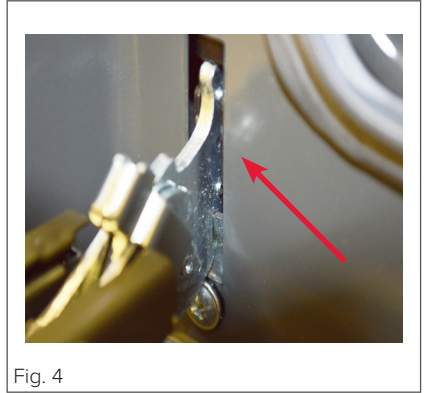

Fig. 4
- Hold the door to the appliance in the closed position and manoeuvre the hinges so that the part of the hinge, highlighted by the star in fig. 4, inserts into the hinge slot in the cavity frame